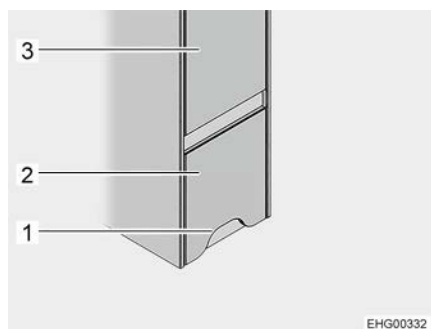
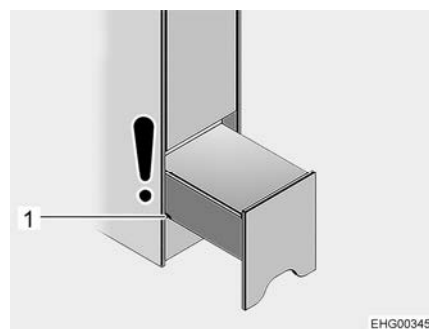

Fig. 122 Access assistance (closed)
Fig. 123 Access assistance (night position)
Position The access assistance has been installed on the right side of vehicle, underneath the wardrobe (Fig. 122,3) in front of the rear bed.
- ▷ The toilet compartment door is opposite to the access assistance. As long as the access assistance has only been pulled out partially ("night position", see Fig. 123), it is still possible to open the toilet door. If the access assistance has been entirely pulled out to obtain access to the storage compartment, it is no longer possible to fully open the toilet compartment door.
- Grab the access assistance (Fig. 122,2) by the cut-out (Fig. 122,1), lift it slightly and pull it out up to the first groove (Fig. 123,1) (night position).